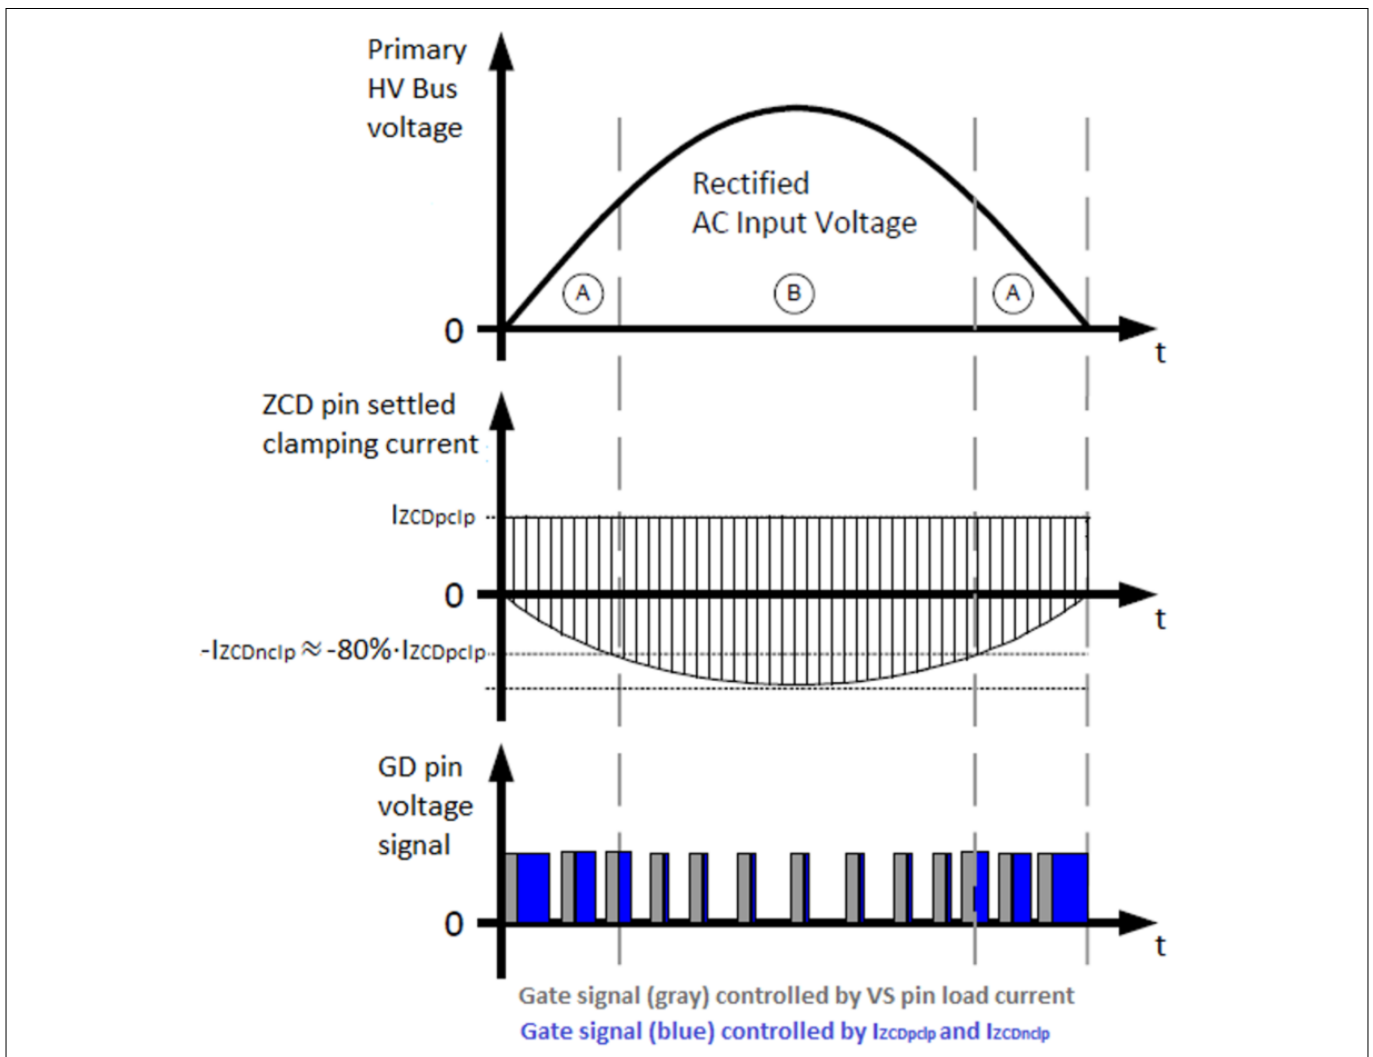

Figure 8 ICL88xx THD correction with on-time extension near AC input voltage zero crossing
As shown in Figure 8 area A, ICL88xx increases the on-time extension near AC input voltage zero crossing, where $I_{ZCDnclp}$ is less than 80% of $I_{ZCDpclp}$.
- the on-time extension effect for THD correction (see Figure 8)